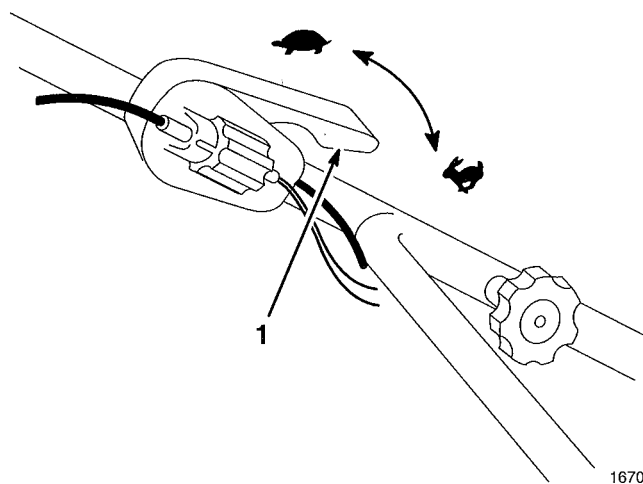

Figure 6
1. Move throttle lever to 🐢 FAST position (Fig. 6).